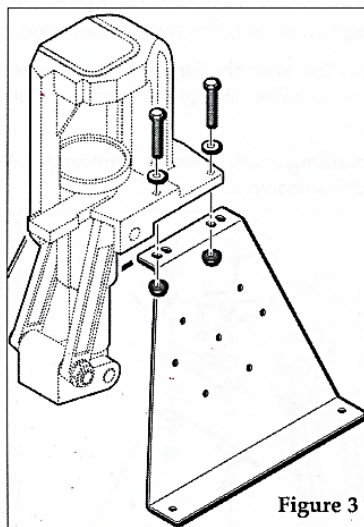

Figure 3
**Step 2** Install the remaining Machine Mounting Bracket on the right side of the RL550B/AT500 Frame, using two short bolts, two washers and two lock nuts, as shown in Figure 3.